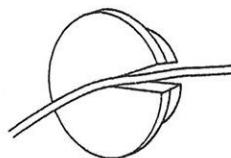

Fig.4
6. Take out the cap of access port and cut half of the diameter. Lead the sensor code or capillary into chamber and put into cap. (Fig.4)